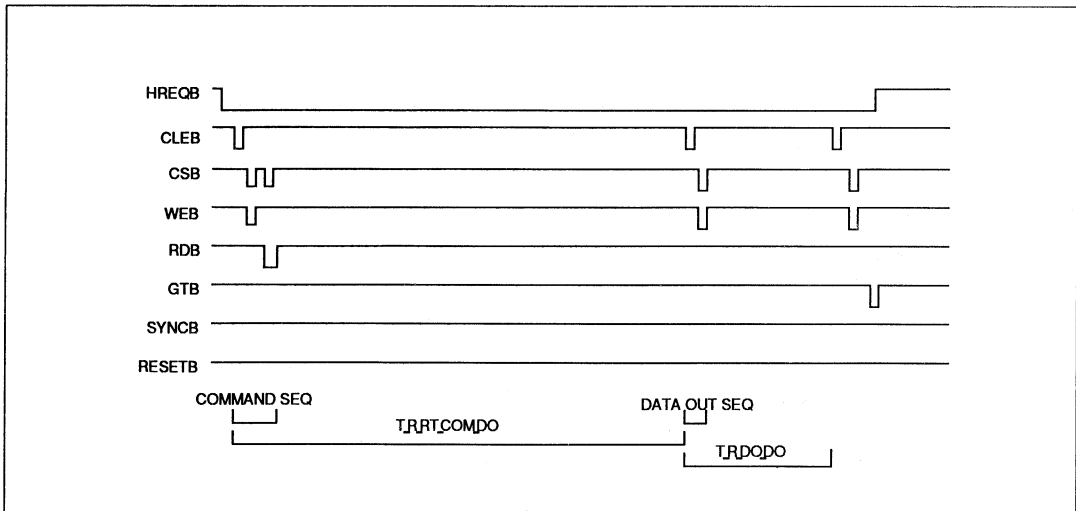

Figure 2.6: Receive Command RT-RT
**RECEIVE COMMAND RT-RT (INCLUDING BROADCAST)** (Figure 2.6)